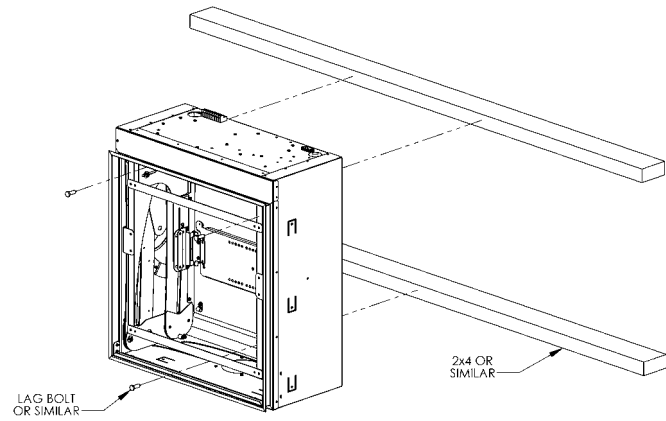

Figure 1. Support the Unit
1. Attach supports (not supplied) to the top of the lift (see Figure 1).